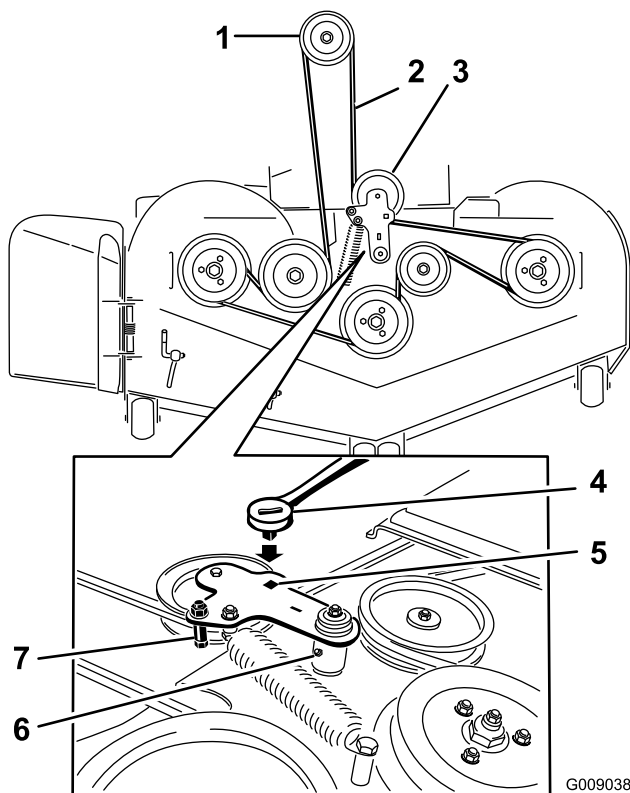

**Figure 75**
4. Remove the belt covers (Figure 75).